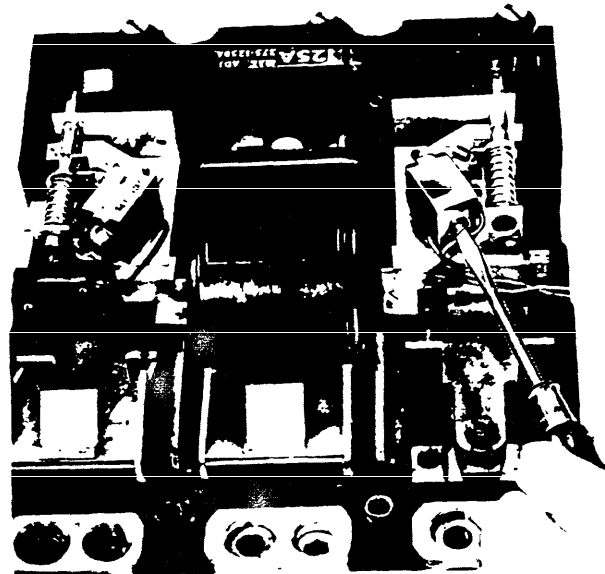

Fig. 9.
1. Energize coil with rated voltage, holding the breaker as it will be mounted in service. If the coil buzzes when the breaker is ON adjust buzz control by slowly rotating either clockwise or counter-clockwise as shown in Fig. 9 until buzz is eliminated.